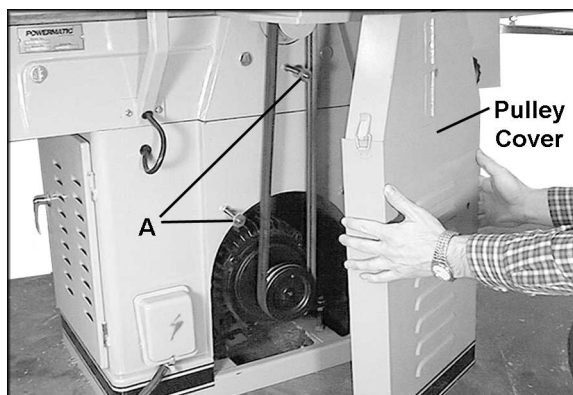

Figure 9
1. Remove the three cap nuts and flat washers on the pulley cover with a 9/16 wrench, and remove the guard to expose the belts and pulleys. See Figure 9.
NOTE: The hex nuts and flat washers on the threaded rods (A, Figure 9) should be left in place; they keep the pulley cover from bending as it is being tightened back into place with the cap nuts.